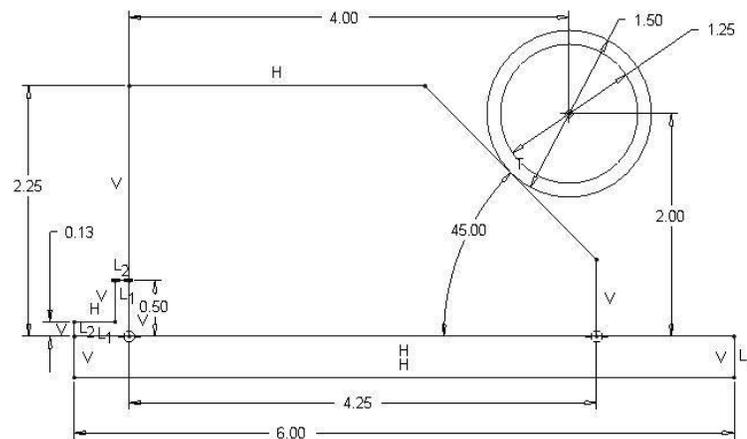

Figure 3-55 Sizing the Block
- Step 14:** The base dimension can be any value; however, a value near 4.25 inches looks reasonable. See Figure 3-55. To change a dimension, *double-click* LMB on it, then type in the new value followed by the <Enter> key. Will a base size of 4.5, 4.0, or 3.25 work?